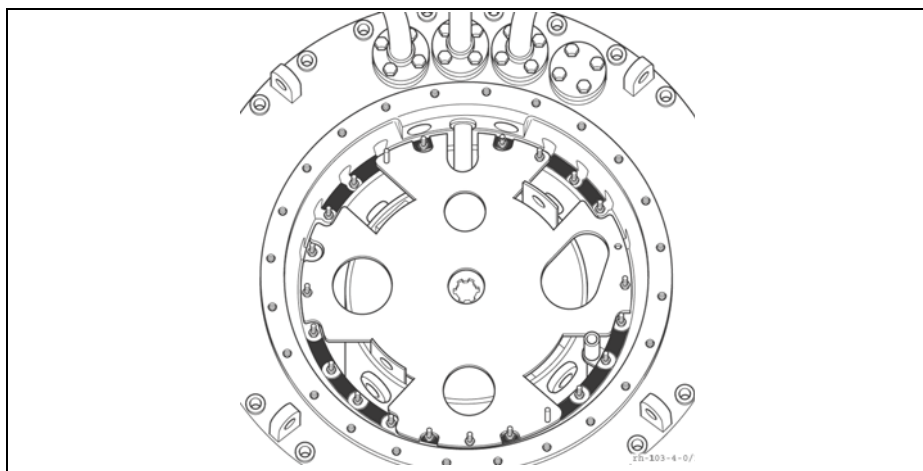

Figure 17 Marked area
4. Take note of the red-marked area which is in the region of the on-load tap-changer head and not covered by the base plate of the diverter switch insert, **Figure 17**.